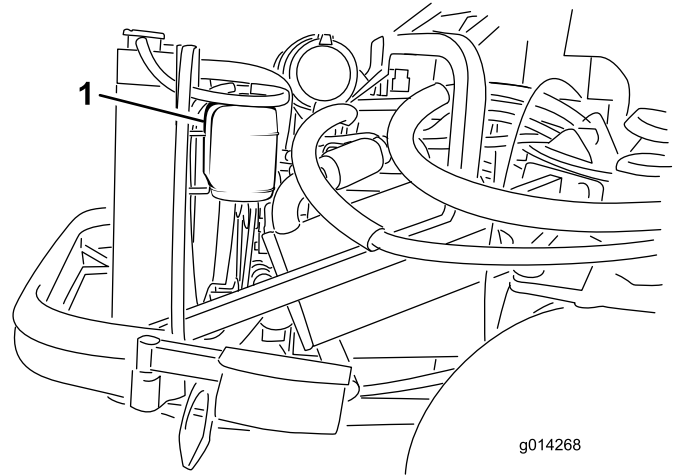

Figure 42
1. Check the level of the coolant in the expansion tank (Figure 42). The coolant level should be between the marks on the side of the tank.